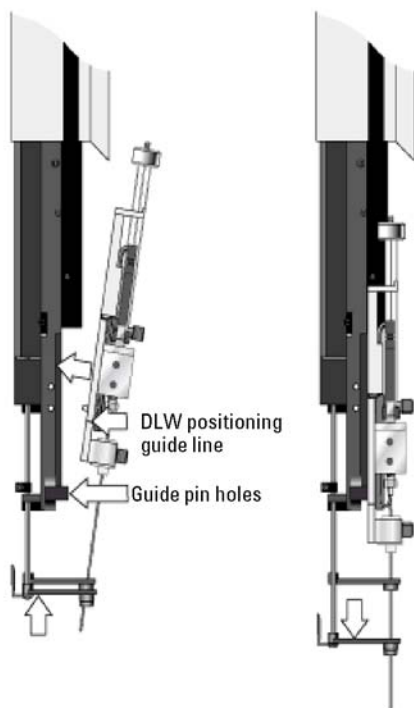

Figure 26 Inserting the DLW Syringe Holder Assembly into the Injection Unit
- 1 Move the Injection Unit aside manually to allow free movement of the syringe slider. Lower the syringe slider as shown in Figure 26 on page 79 in order to gain space for installing the DLW Syringe assembly.